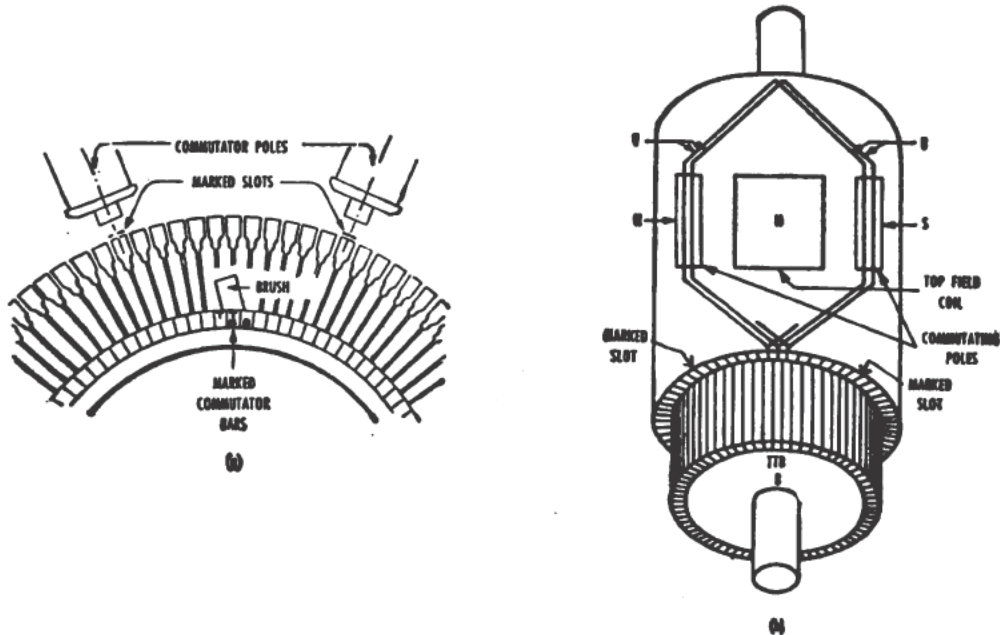

Figure 4-1.—Locating the mechanical neutral.
Direct current machines operate best when their brushes are set on the commutator at the neutral point, where the armature current reverses direction. At this point, the best commutation is usually maintained. In most instances you will find that the brushes have been factory set at the neutral position. However, under certain conditions it may be necessary to reset the brushes; brush shifting should be done with the machine disconnected from the source of power. To aid you in this task you will find certain markings on the armature of the machine. In the lap wound armature shown in figure 4-1 (a), there are two commutator risers whose slots are marked with paint. The distance between these two marked risers is equal to the distance between the coil sides of one armature coil. Now, notice the group of three commutator bars that are stamped with the letters TT and BB. The commutator bars marked with identical letters are each connected to one of the two ends of the same armature coil. The top view of the armature in figure 4-1 (b) will help to clarify this. Since one end of each of the armature coils is connected to the same commutator bar, that bar will have both a T and B stamped on it. This middle bar is the mechanical neutral bar, and is the one over which the brush should be placed once the armature has been rotated into its correct position. To determine this correct position:
1. Turn the armature over until the marked riser slots are directly under the center lines of two commutating poles (fig. 4-1 (a)). Where there are no commutating poles, turn the armature until the marked slots are